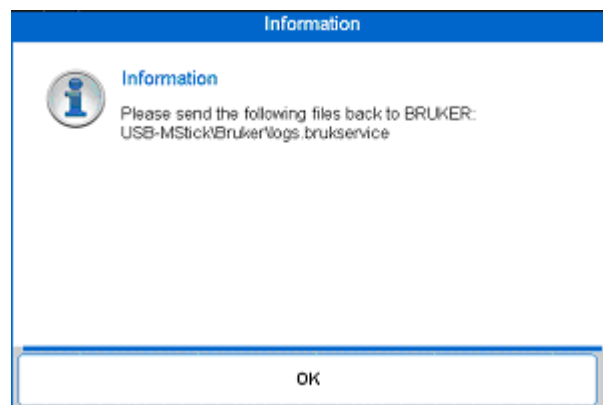

Figure 10.3 Information Screen
- i** If the Information screen (Figure 10.3) does not appear, send the new file on the USB memory stick back to the customer service. The file contains information about the device.